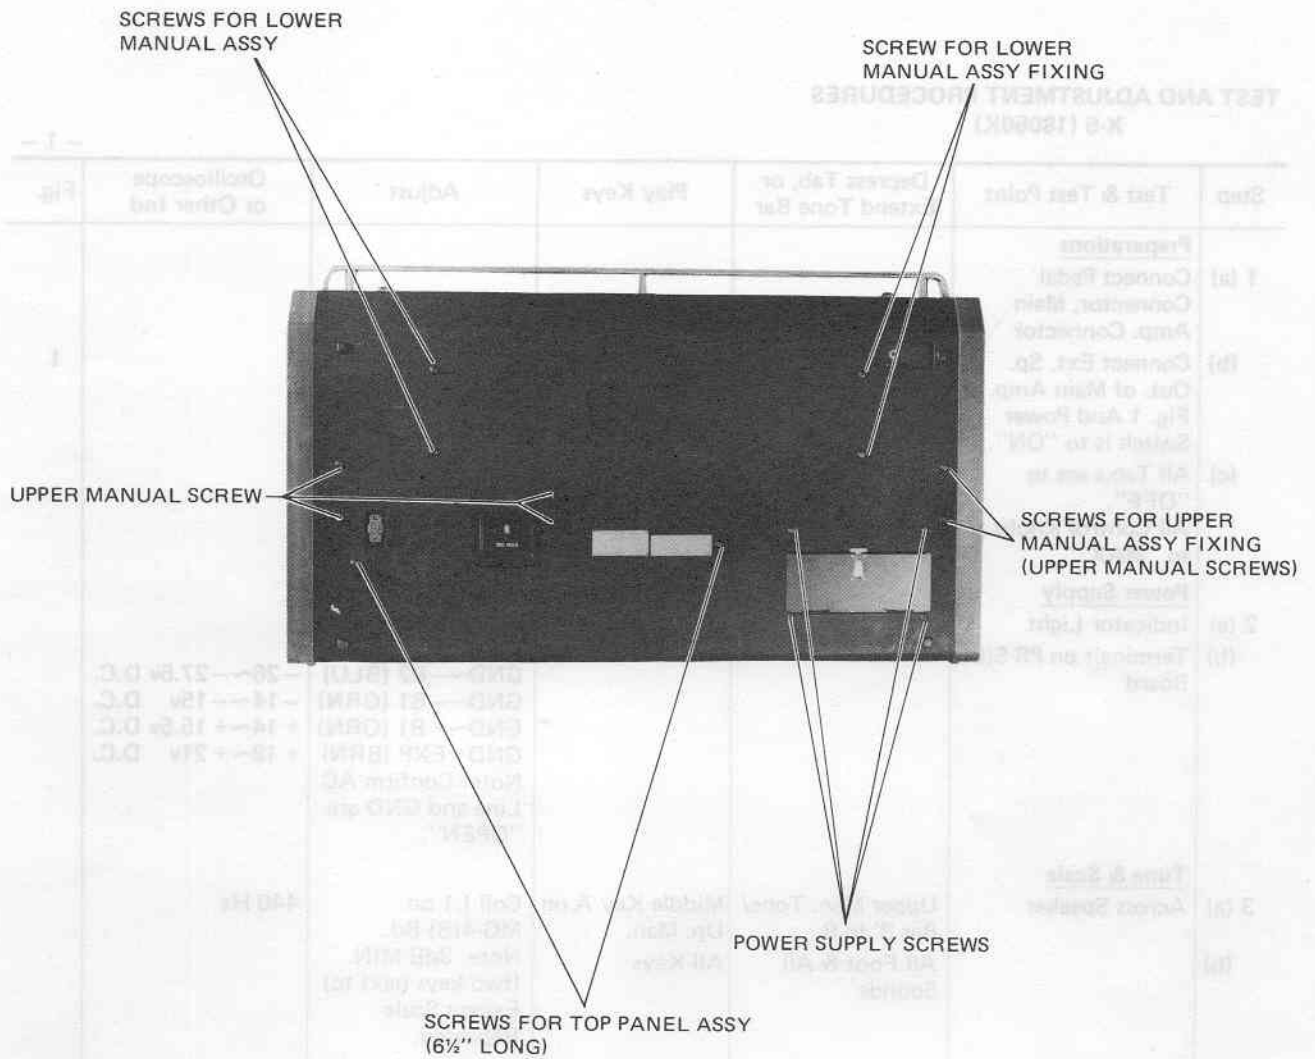

FIGURE 2-1
- a) Two (2) bronze screws (6½" long) located under Upper Section must be removed FIRST. (Note – See Figure 2-1 for location).
- a) See figure 2-1 for location – Remove six (6) 1" long bronze screws from under side of Upper Section.
- b) See Figure 2-1 for location. Remove four (4) 1" long bronze screws from under side and toward front of Upper Section.
b) Remove six (6) screws fastening cover above power supply assembly — Remove cover.
c) From under side, right rear of Upper Section remove four (4) screws. See Figure 2-1 for location.
b) Remove six (6) screws fastening cover above power supply. Remove cover.
c) Remove two (2) screws and fasteners hold EF-12 PWB.
d) Remove four (4) screws fastening MG-4 PWB to hinged panel. Carefully unplug and remove.
e) Remove four (4) nuts and washers from rear of swing panel.